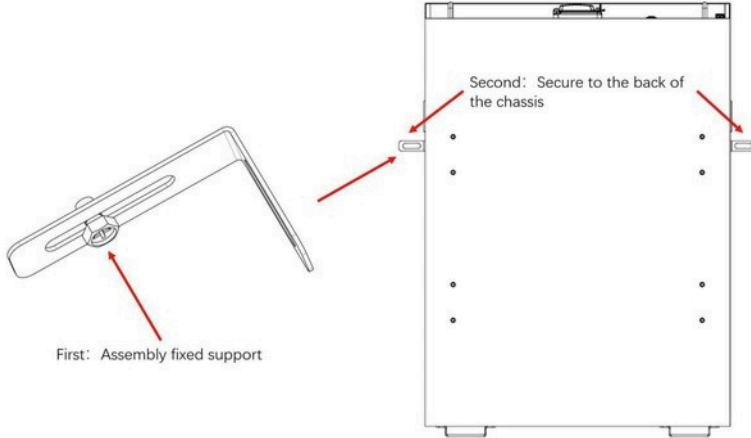

Figure 5-4
- Use the 4 screws of M6*10 to fix the left and right retaining ears to the back of the battery, as shown in Figure 5-4.